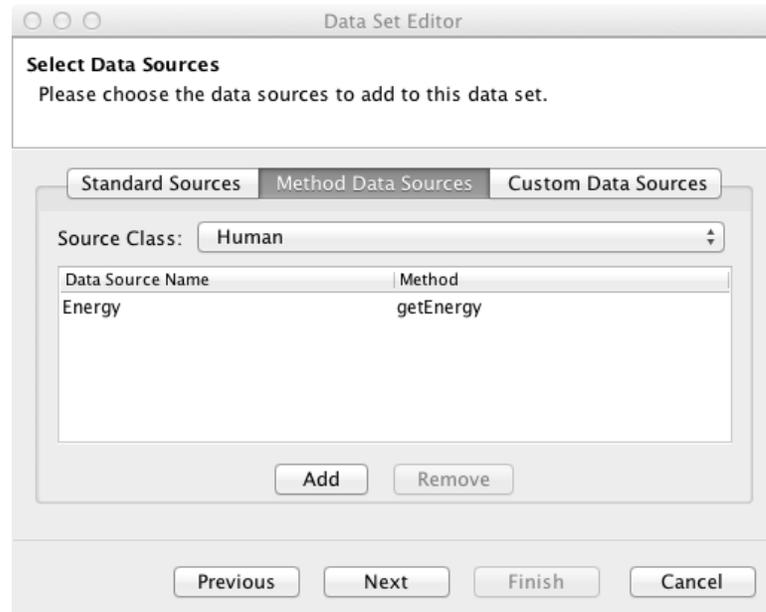

FIGURE 5. Aggregate Method Data Sources
**2.2. Non-Aggregate Data Sources.** For a non-aggregate data set, the method data source tab (see fig. 5) allows you to define data sources that call a method on an individual agent type and returns a result for each agent of that type. Unlike, the aggregate data source, no aggregate operation will be performed. The result of each call will be recorded.